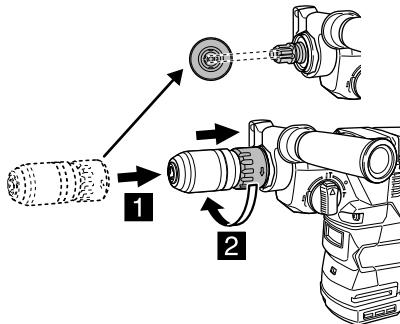

Fig. 19
- (1) Mesh the lock grip with spline.
- (2) Push in the lock grip, turning it in the arrow direction shown on the lock grip (Fig. 19).
- (3) To confirm that the lock grip is securely installed, tentatively try to pull out the lock grip.